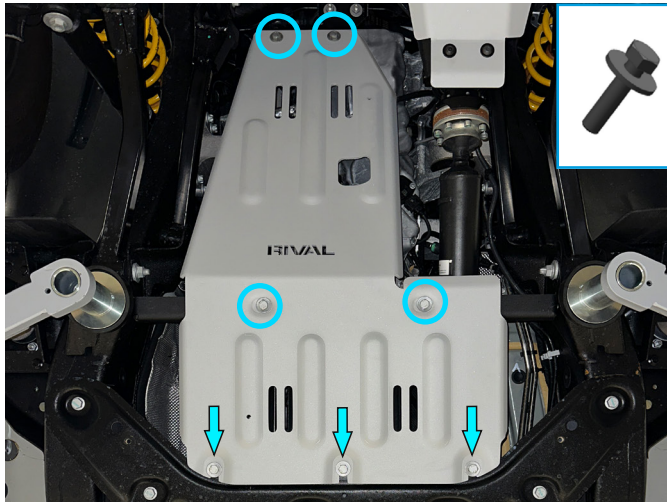

Fig. 9
7. Slide the rear of the engine skid plate (item 1) over previously installed M10 bolts & washers from step 6. Secure the skid plate to bracket and crossmember using remaining M10x30 bolts and M10 washers (items B, E) as shown in Fig. 9.